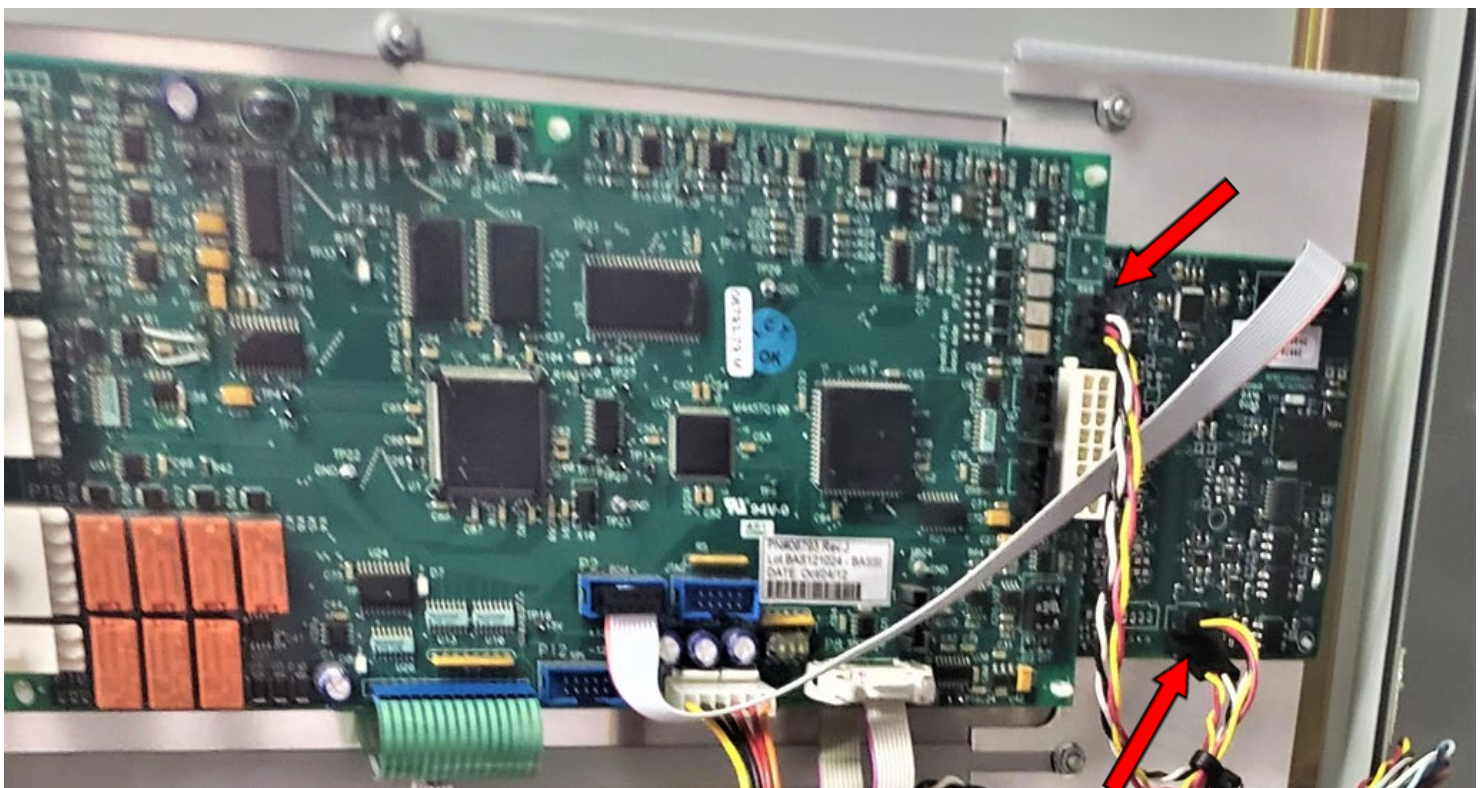

Figure 9 P101 Cable Connected from the J101 Connector on the CAN Board to the J2 Connector on the Channel A of DVS100/DVS150 Control Board
- 4.3.4. Connect the P101 cable from the J101 connector on the Channel A of DVS100/DVS150 CAN board to the J2 connector on the DVS100/DVS150 control board (Figure 9).